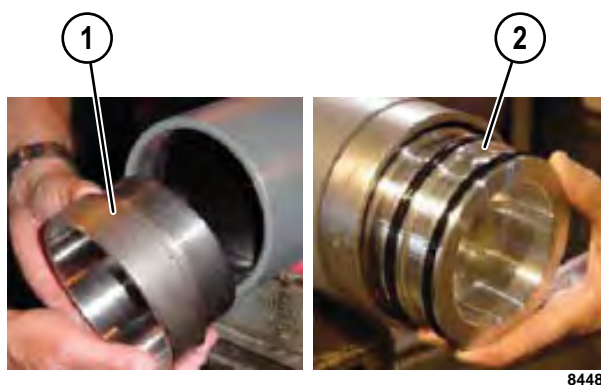

FIGURE 50-27. PISTON ASSEMBLY
2. Carefully insert piston assembly (2, Figure 50-27) into the accumulator housing bore. Avoid cocking to prevent damaging the piston and/or seals on the end cap threads. If necessary, tap the piston lightly with a soft hammer. Be careful not to pinch the backup rings.